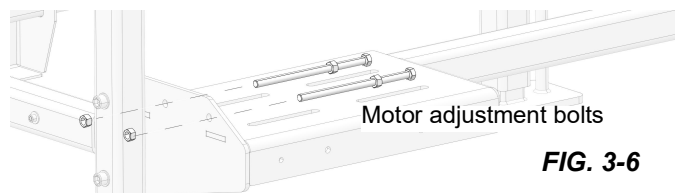

FIG. 3-6
- Screw one nut on each motor adjustment bolt before inserting into the motor mount shelf. See FIG. 3-6.
- Use the adjustment bolts to tension the chain on the sprockets as shown in FIG. 3-6.